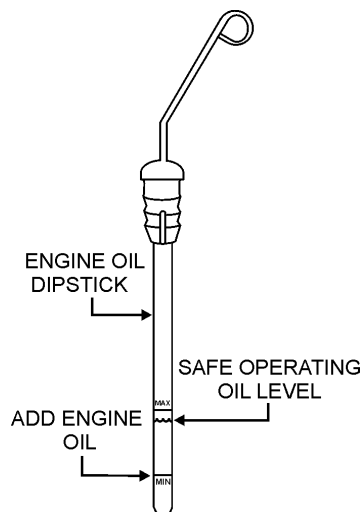

Figure 12. Engine Oil Dipstick
3. Re-Insert dipstick (Figure 12), then remove dipstick from its holder. Check the oil level shown on the dipstick.